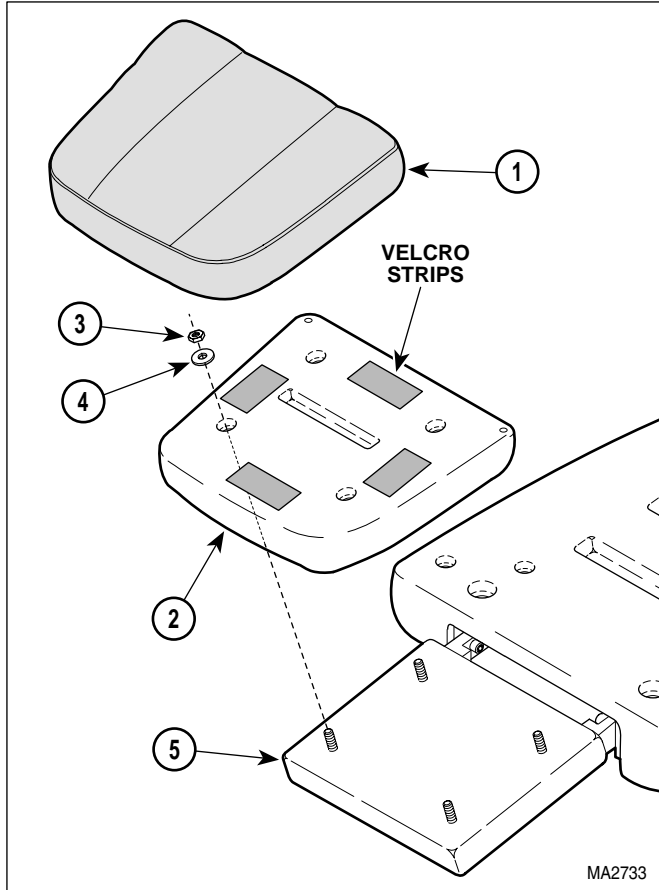

Figure 4-31. Plastic Foot Section Removal / Installation
- (1) Remove upholstered foot section (1, Figure 4-31) from plastic foot section (2).
- (2) Remove four nuts (3), washers (4), and plastic foot section (2) from foot section weldment (5).